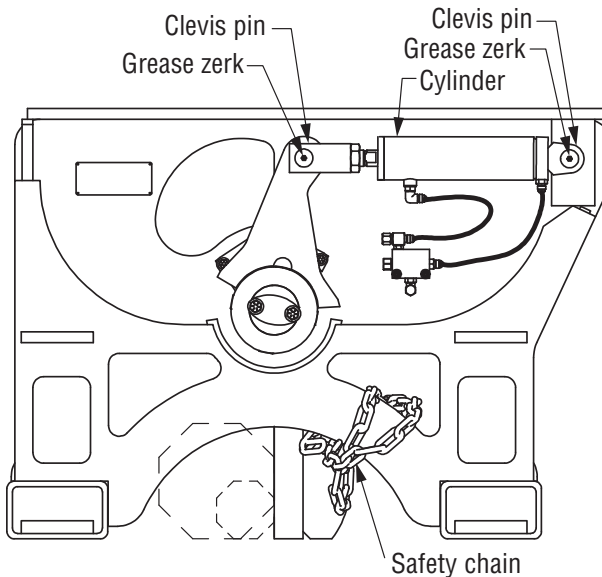

Figure 5-7, Grease Fitting Locations
8. Use a standard lithium grease when necessary on the grease fittings located in the gear pins. (Figure 5-7)